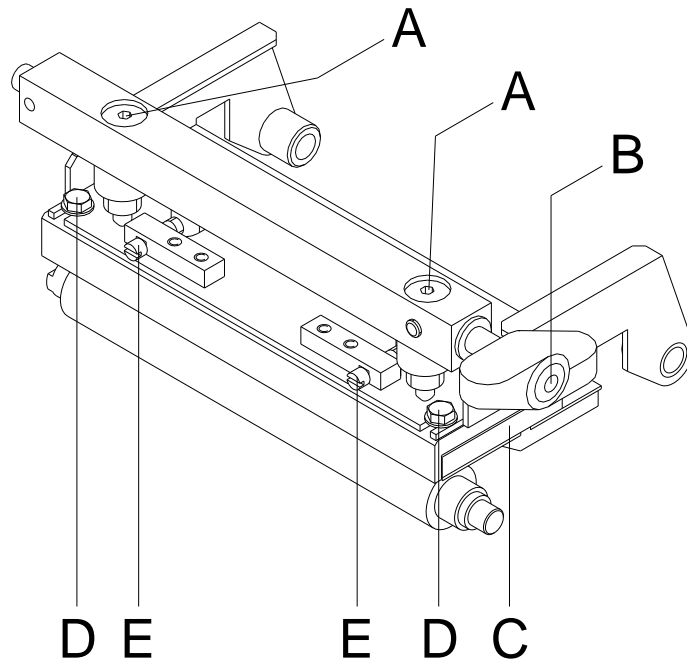

Figure 17
1. Loosen the screws (D, Figure 17) with a hexagon key by approx. $\frac{1}{4}$ rotations.
2. Adjust the parallelism with the adjusting screws (E, Figure 17).
4. Tighten again the screws (D, Figure 17).
1. Turn the pressure screws (A, Figure 17) to change the pressure of printhead.
2. Turning the pressure screws (A, Figure 17) in clockwise direction results in a pressure increase.
3. Turning the pressure screws (A, Figure 17) counter clockwise results in a pressure decrease.